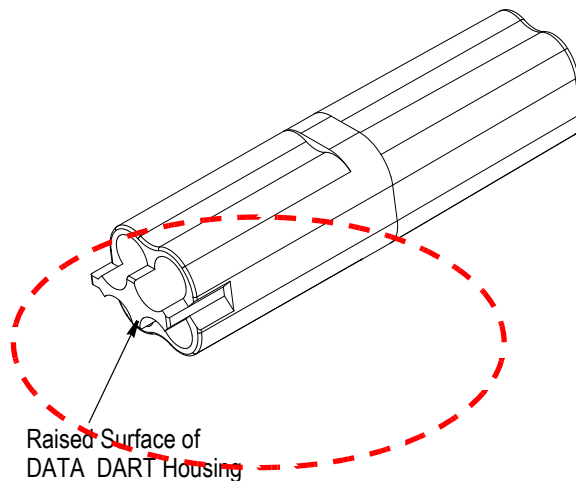
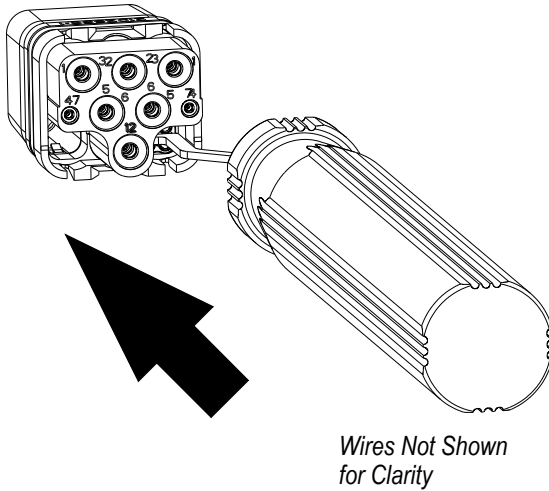

Figure 3
Figure 4
3. Slide the tip of the tool along the raised surface of the DATA DART (Figure 3) and push the DATA DART inside the power module housing until its bottoms and latches are in place. Refer to Figure 4.